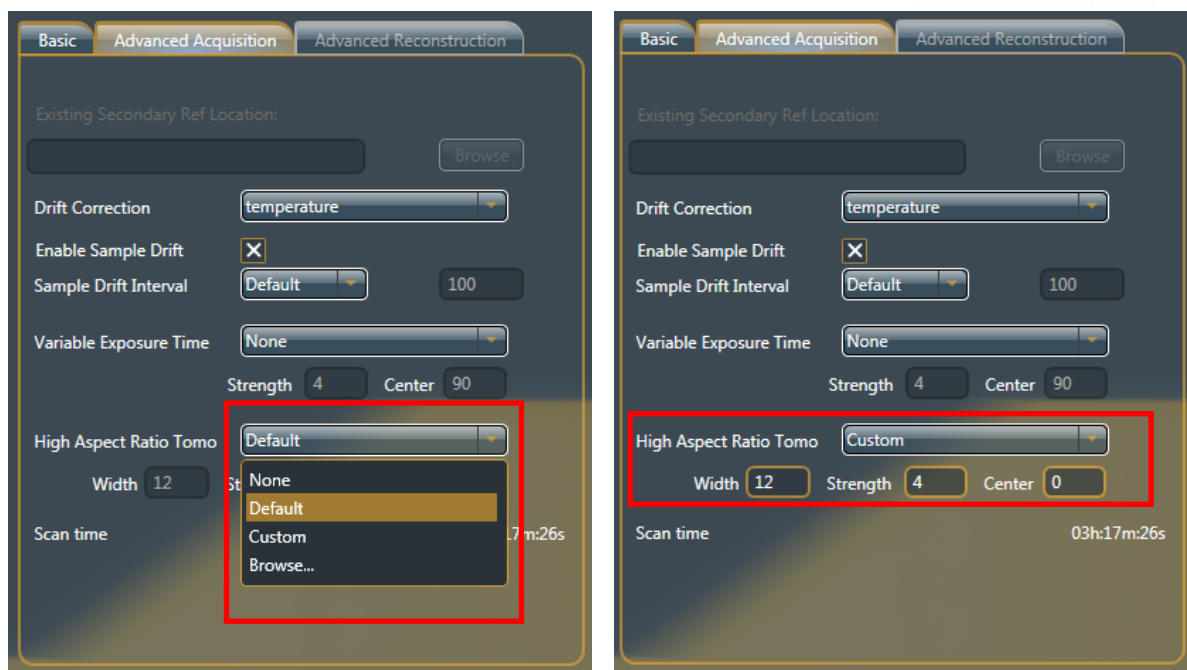

Figure 2: Set HART parameters in Scan page of Scout-and-ScanTM.
- b) Select one of four options in “High Aspect Ratio Tomo” (Figure 2 Left)
- iii) Customer – allows user to enter non-default HART parameters (Figure 2 Right).